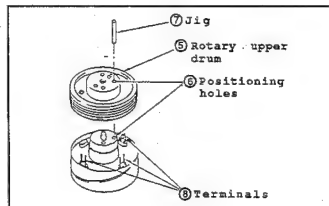

Fig.II-29
- (1) Clean the flange surface and the rotary upper drum ⑤ surface which faced the flange surface. Check that there is no dust particles and flaws.
- (2) Insert the jig ⑦ into the drum positioning holes of upper/lower rotary drum. (Fig.II-29)
*Note: At this time confirm that the terminals ③ come out from the holes of the rotary upper drum C.B.A..